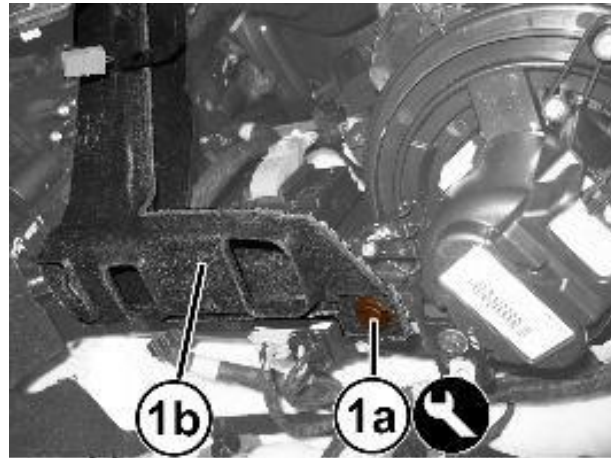

Figure 85 – Air Vent
16. Use tool Trim Stick C-4829A (1823015000) to disconnect the retaining pin with central pin (1a) and release the air vent (2a) (Figure 85).